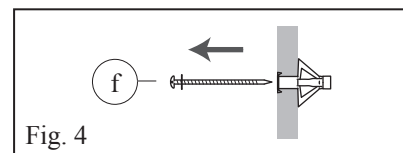

Fig. 4
7. Unscrew the screws (f) from the molly bolts. Molly bolts will remain in the wall. (Fig. 4)